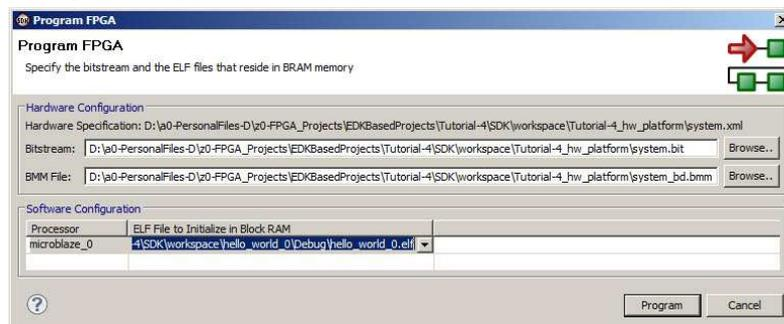

Figure 34. Program FPGA (Step 13)
**Step 13:** Make sure the FPGA is powered on. Select the menu item “Xilinx Tools” from the menu bar and then select “Program FPGA”. The “Program FPGA” window of Figure 34 will appear asking you to select the executable (ELF) file to be used. Beside “microblaze\_0” select the second option “..\mydesign\SDK\Workspace\hello\_world\_0\Debug\hello\_world\_0.elf”, then press “Program”. This will start the programming process on the board.